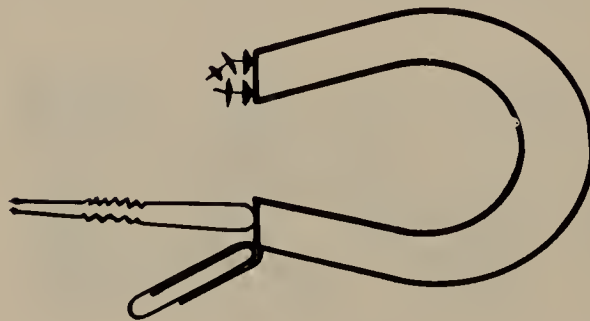
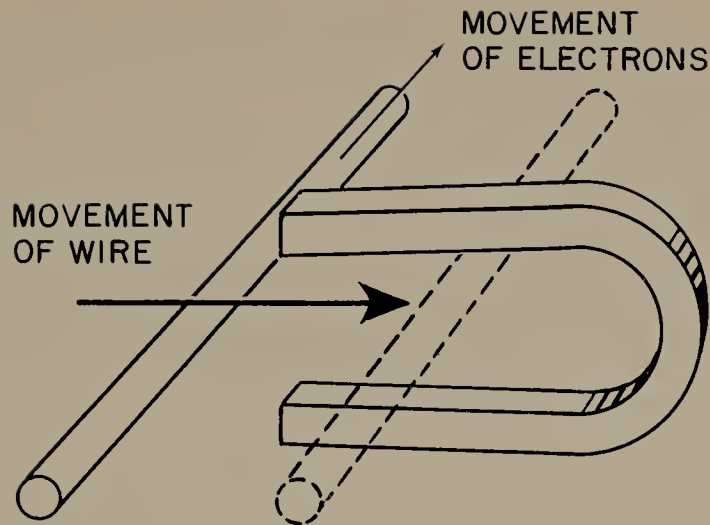

FIGURE 7.4 A magnet will attract objects made of iron.
FIGURE 7.5 Current flows in a conductor when it moves past a magnet.
7.7 Electromagnetism. Electric batteries concentrate electrons at one terminal and take them from the other terminal. They produce this unbalanced condition by chemical means. An imbalance of electrical charge can also be produced by mechanical means, that is, by moving a magnet past a conductor. A magnet will attract bits of iron such as tacks, paper clips, and hairpins. This is called *magnetic attraction*, or *magnetism* (Fig. 7.4). Magnetism also has an effect on electrons. For instance, if a wire is moved past a magnet (Fig. 7.5), the free electrons in the wire are moved in one direction. In other words, they stop moving about in random directions and start moving in the same direction along the wire. This action is the basis of the ignition system for the two-cycle engine and also of the generator or alternator in the automotive electric system.